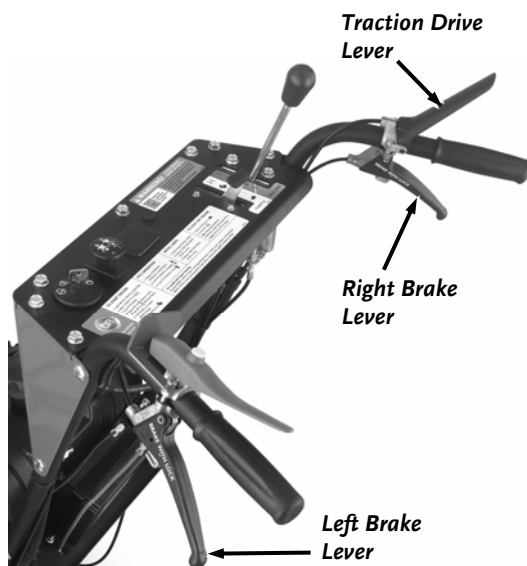

Figure 22
2. Press down on the Traction Drive Lever to drive the machine (**Figure 22**).